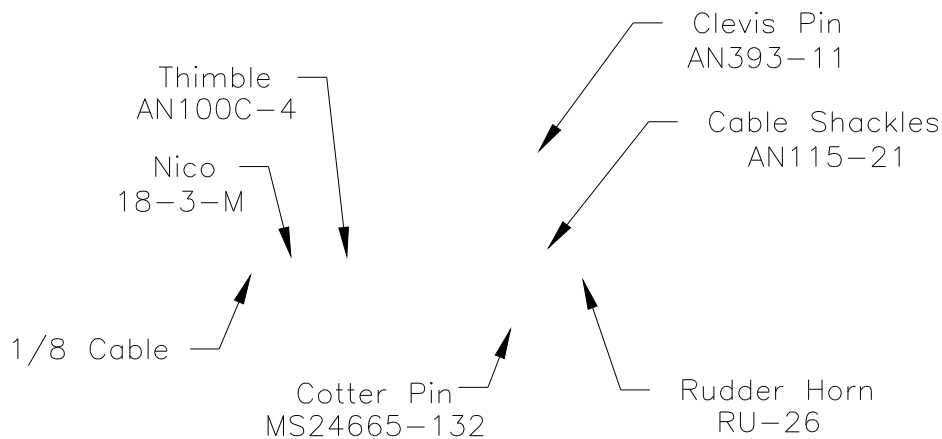

Figure 20.11.5
- 10) Assemble cable and attach to the outermost holes in the rudder horn. Figure 20.11.5.